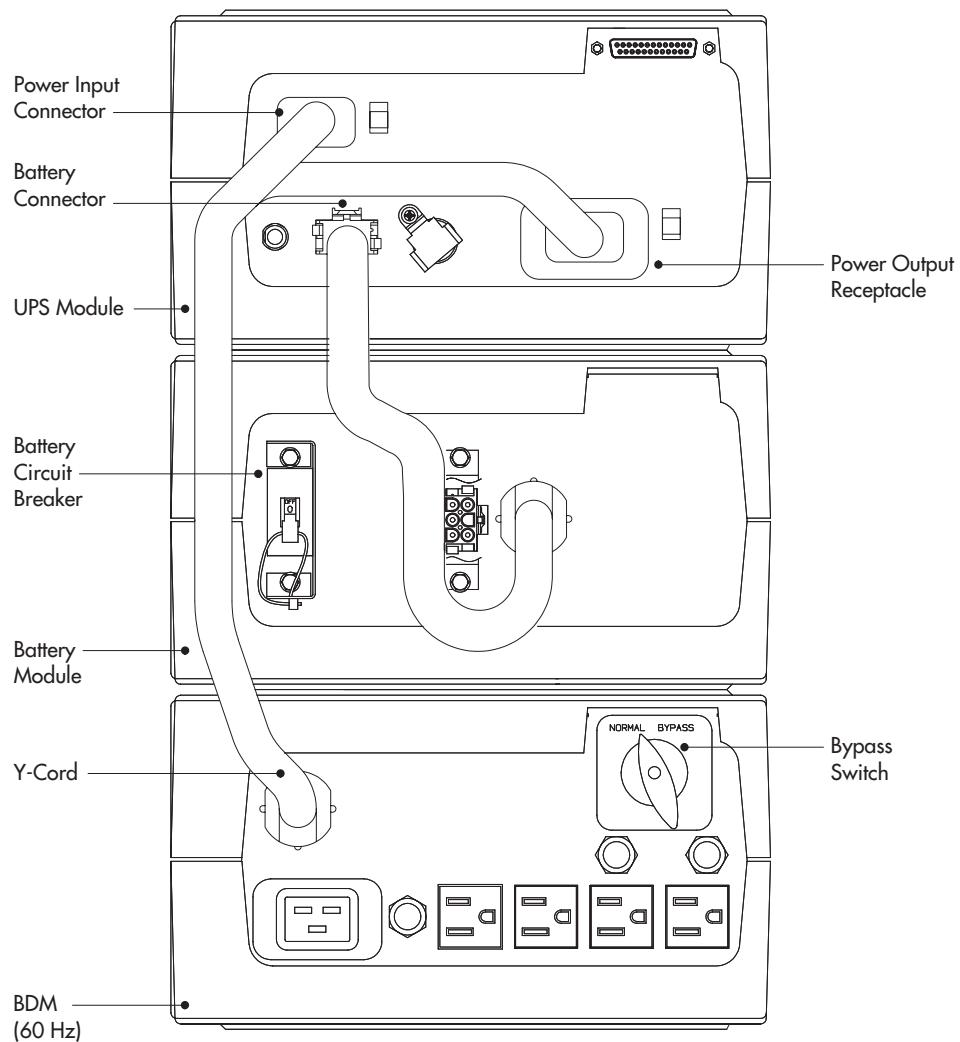

Figure 18. UPS with Bypass Module Rear Panel (60-Hz BDM Shown)
- 1 Turn the Bypass switch on the Bypass Module to the BYPASS position (see Figure 18). The Bypass Module is now powering your equipment from utility power.
- 3** Plug the Y-cord of the Bypass Module into the power connectors on the UPS as shown in Figure 18.